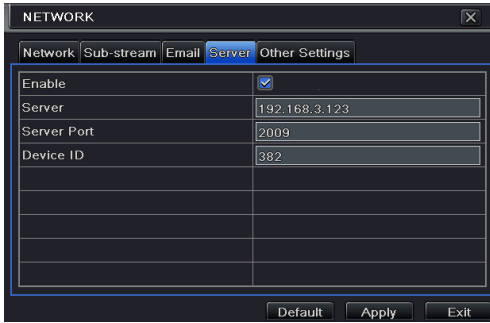

Fig 4-25 Network Configuration-Server
Step 1: In the server interface, select “Enable” as shown in the Fig 4-25.